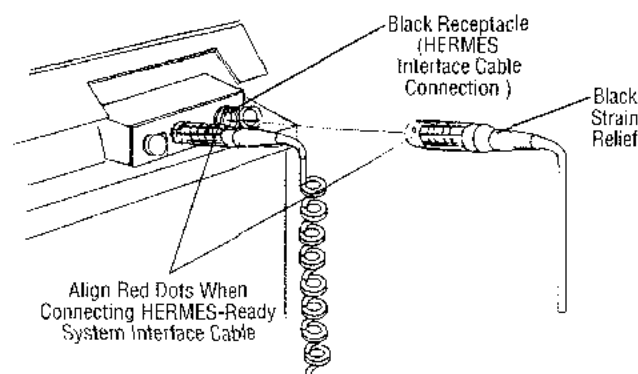

Figure 4-6. HERMES-Ready System Connection
2. Connect the HERMES Interface System to the HERMES-Ready 3085 SP table by aligning the red dot on the black plug of the HERMES interface cord with the red dot of the black receptacle on the HERMES-Ready table and pushing the plug in to connect it (see Figure 4-6).